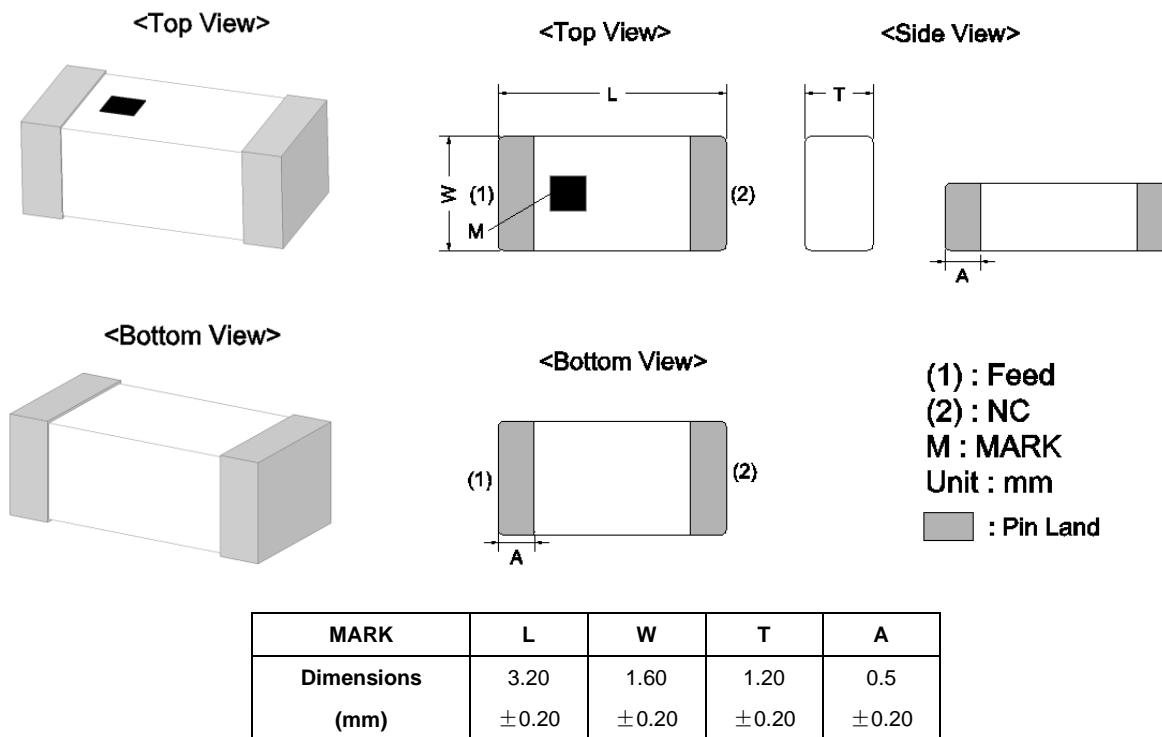

Fig. 4-1
1) Dimensions and terminal configuration: See **Fig. 4-1**